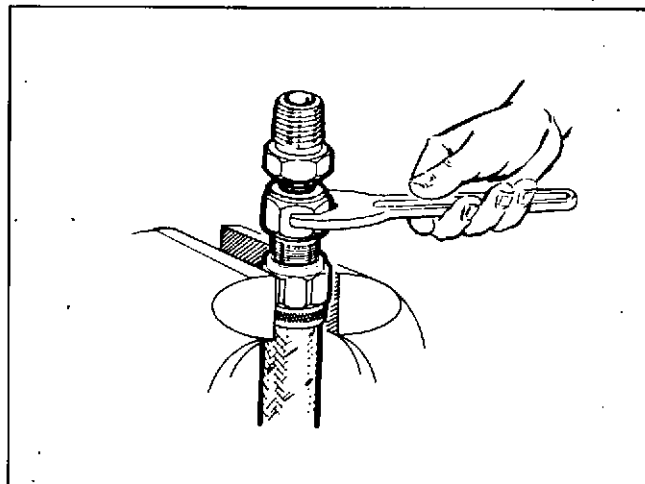

Fig. 7-16 (N10739). Assemble The Hose Nipple And Socket
7. Use the Part No. ST-1160 Lube Hose Assembly Tool to install the nipple into the hose and socket assembly, Fig. 7-16. The ST-1160 includes hose mandrels for the hose sizes 4, 5, 6, 8, 10, 12 and 16.